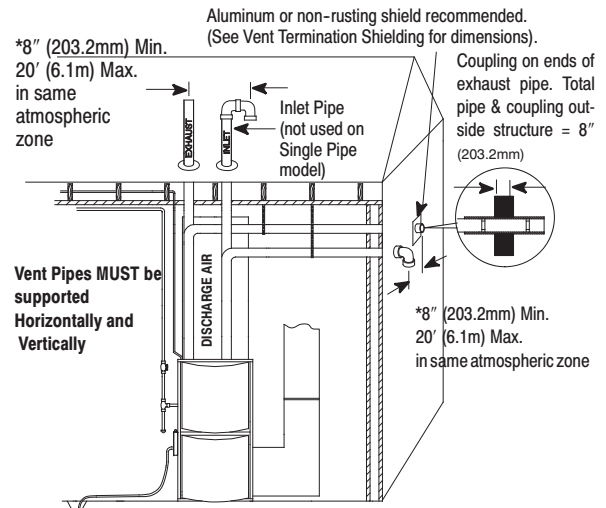

Fig. 1 - Typical Upflow Installation
1. Refer to Fig. 1 for typical installation and basic connecting parts required. Refer to Fig. 4 for typical horizontal direct vent installation and basic connecting parts required. Supply and return air plenums and duct are also required.